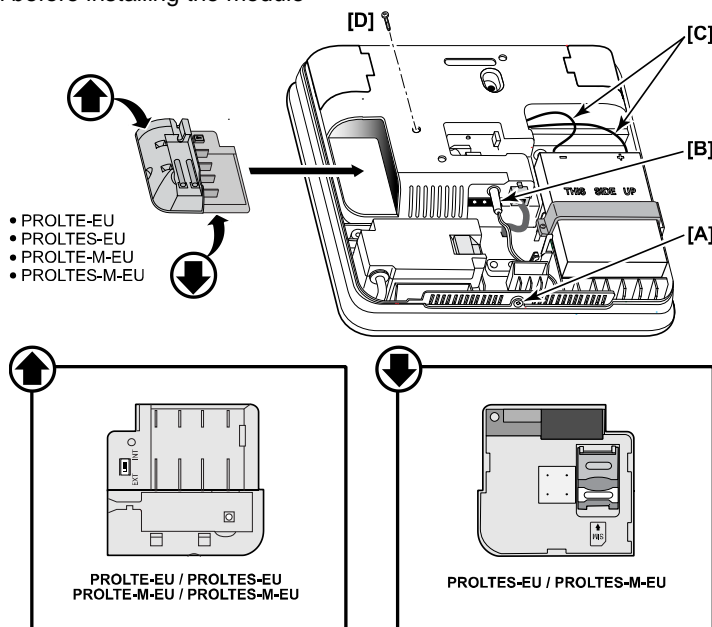

Figure 1 PROLTE-EU Series
Install the PROLTE Series module as follows (figure 1):
4. Insert the PROLTE Series module into the slot on the left side of the Control Panel as shown in Figure 1 and ensure the receptacle is securely seated on the edge connector.